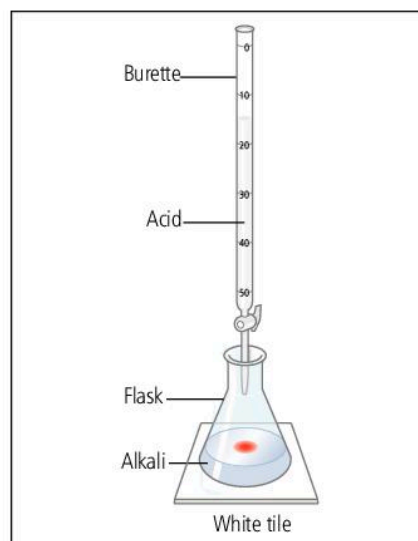

Figure 7.6.2 Titrating an alkali with an acid
- 4 Set up the apparatus shown in Figure 7.6.2 and record the initial burette reading.